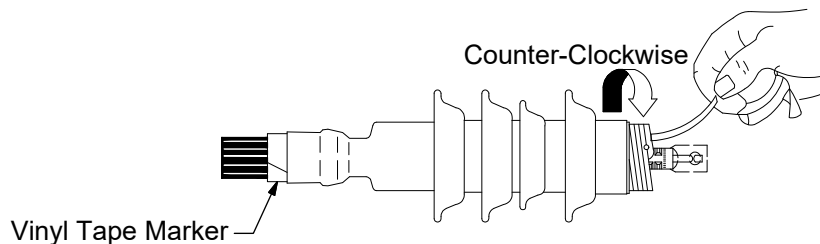

Figure 5
8. Position the terminator body on the cable. The base of the terminator body (not the core), must be butted up to the edge of the vinyl marker tape. Remove the core while unwinding in a counter-clockwise direction. Once the terminator body has made contact over the mastic seal area, there is no need to continue supporting the assembly. DO NOT push or pull the terminator while unwinding the core. See Figure 5.